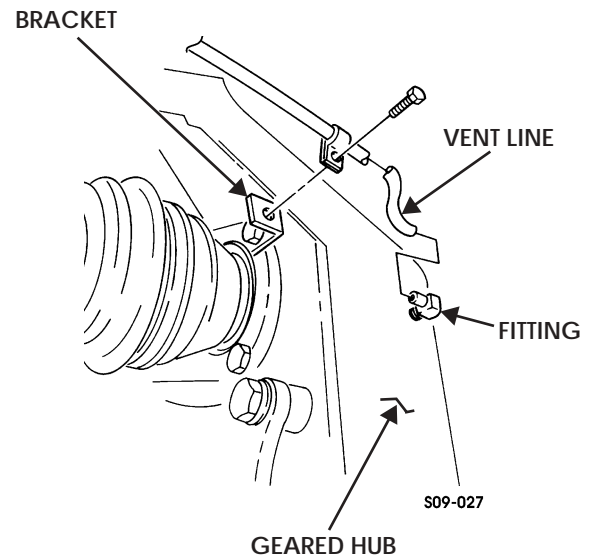

Figure 9-39: Rear Upper Control Arm Vent Line
2. Remove capscrew, clamp, and vent line from bracket, and disconnect vent line from fitting (Figure 9-39).
3. Connect vent line to fitting and secure clamp and vent line to bracket with capscrew (Figure 9-39).